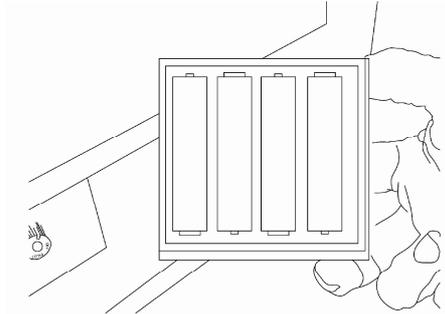

Figure 15
2. Remove battery cover along the direction showed on the battery box, and install four (4) AA batteries into the box. (See Figure 15)